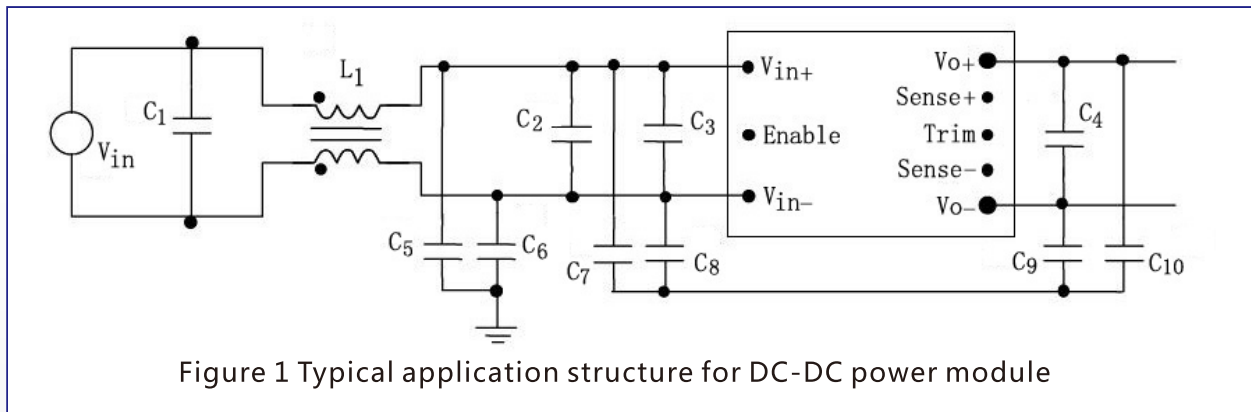
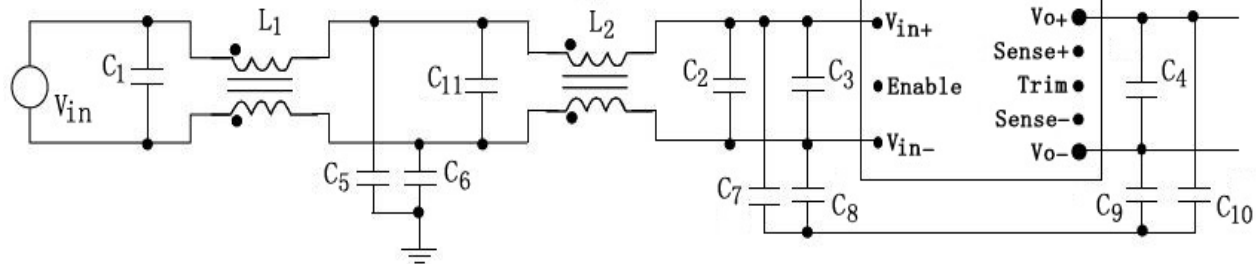
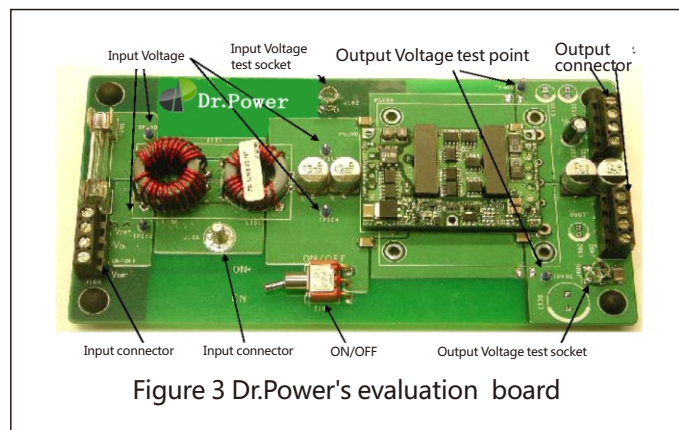

Figure 1 Typical application structure for DC-DC power module
Figure 2 Two-Stage EMI filter structure
Figure 3 Dr.Power's evaluation board
Figure 1 shown a typical application structure for DC-DC power module. For a DC-DC power module to function properly in a system, the system design should provide a sufficiently low impedance power source (usually the output impedance of power source) to feed the power module, and the output impedance of the power module should be sufficiently low as well for good transient response. Besides the internal design of DC-DC converters and power source, these requirements are usually assured by placing extra capacitors (C1-C4 in Figure1 and figure 2) across the input terminals and the output terminals of the power module.
For Dr.Power converters, the single-stage filter in Figure 1 is generally good for power modules below 150W. For power level above 150W, the two-stage filter structure shown in Figure 2 is recommended.
The filter structures shown in figure 2 is designed to meet electromagnetic compatibility (EMC) requirements for radiated and conducted EMI per FCC part 15J (47 CFR part 15B) in USA and/or EN55022 (equivalent to CISPR 22) in Europe without considering the system. Considering that module is only part of the application system and both input and output wires/trace are short and lay inside the system, system designs may suppress EMI through proper bypassing, shielding, grounding and system level filter. So the filter structure could be simpler compared to Figure 2.
A copper plan should be placed under the power module and coupled to the input and output terminals of the power module through ceramic capacitors of proper voltage rating. These ceramic capacitors also include the components of filter, such as C7-C10 in Figures 1 and figure 2. This helps to contain the radiated noise from the fast dv/dt and di/dt inside the power module. This copper plan should be buried in an internal layer of the system board to prevent possible violation of isolation spacing distances between input and output.
Use short paths and minimize loops for capacitor branches in the filter to avoid the trace impedance defeating the purpose of low impedance of the high frequency capacitors. Therefore C3 and C4 in Figure 1 should be placed as close to the power module as possible.
Evaluating DC-DC power modules for a specific application is a quite complex and errorprone process, and requires a thorough understanding of the power module and the application environment. To assist customer perform the test, Dr.Power supplies module evaluation board as shown in Figure 3. This board contains practical application circuit similar to that shown in Figure 1. In addition to the connection terminals and test points, there are also probe socket of oscilloscope. Customers can order the evaluation board from Dr.Power. More important tests should be performed on this board or similar devices to ensure the correct results. Below discussion are related to the most commonly and important tests.
4. Such a shunt has a small and well defined resistance to convert a current into a voltage signal normally in the range of mV. However, the measurement of such low amplitude signal is susceptible to switching noises, especially the common-mode noise. Filter capacitors may be used to achieve valid readings (refer figure 1 and figure 2). If good grounding and filtering is not possible, it's recommended to connect an input terminal (usually V_{in-}) to an output terminal (usually V_{o-}) together through a short wire or a capacitor to minimize common-mode noise.